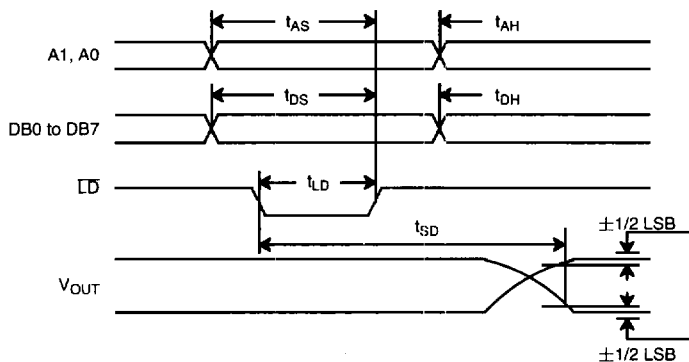
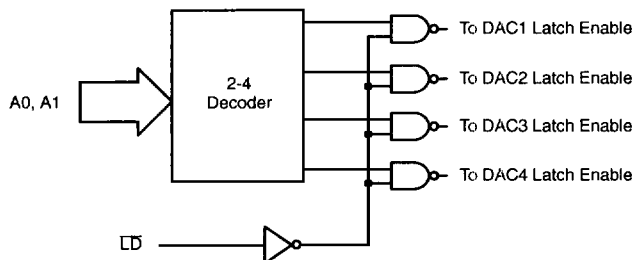

Figure 1. Timing Diagram
Figure 2. Input Control Logic (Simplified) Block Diagram
- (1) Full Scale Range (FSR) is 3V.
- (2) Guaranteed but not production tested.
- (3) Digital input levels should not go below ground or exceed the positive supply voltage, otherwise damage may occur.
- (4) See Figure 1.
- (5) For reference input pulse:  $t_R = t_F \geq 100$  ns.
The MP7643 allows direct interface to most microprocessor buses without additional I/O circuitry. *Figure 1.* and *Figure 2.* describe the operation, specification and interface characteristics of the logic port.